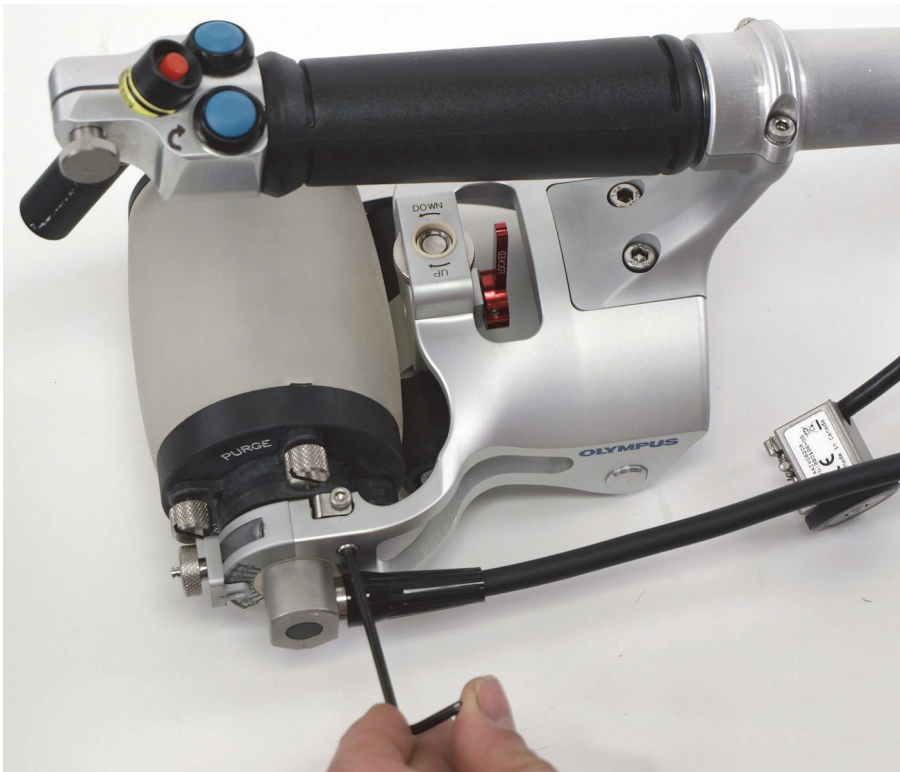

Figure 6-39 Loosening the screw of the alternate encoder holder
- 8. For the non-XL model only, loosen the retaining screw of the alternate encoder holder, which is located on the acoustic wheel mount on the side of the probe cable (Figure 6-39 on page 118).